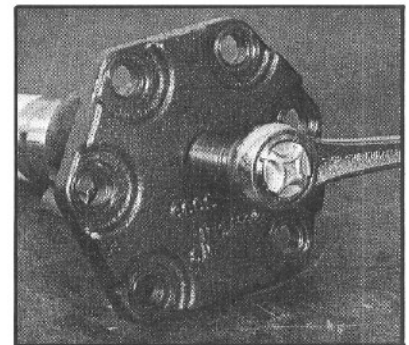

Figure 44
- 11. Remove the sector shaft adjusting screw jam nut (59) (FIG. 44).